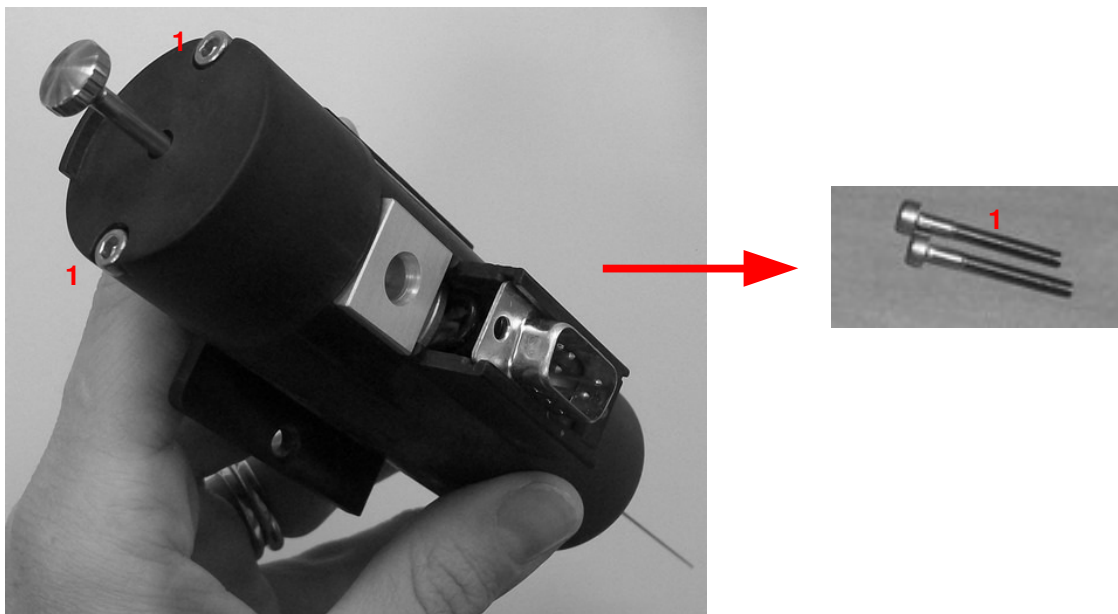
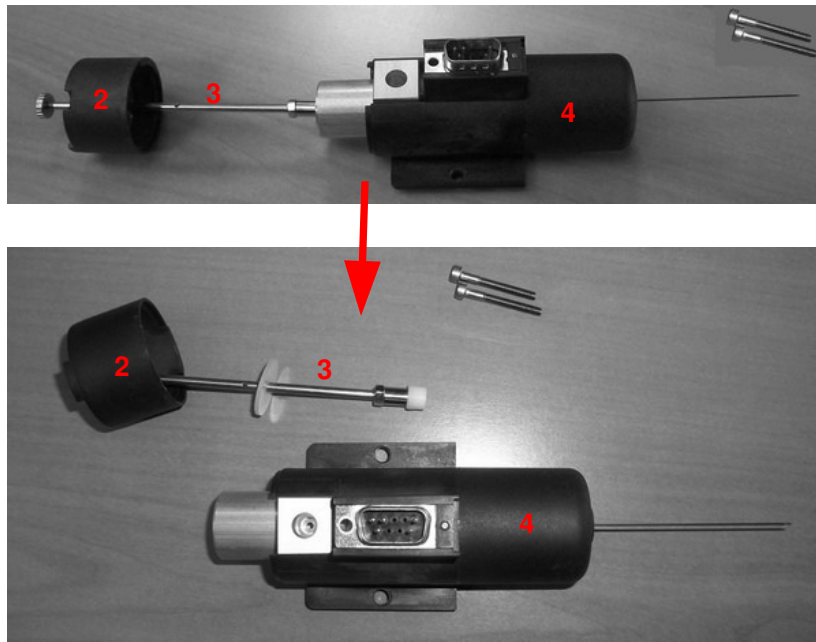

Figure 109: Main screw
Figure 110: Removing the upper cover and the syringe plunger
1. Remove the two main screws (number 1 in **Figure 109**) that secure the upper cover using the supplied allen key (see paragraph 2.3 “Tool kit”).
2. Gently lift up the upper cover (number 2 in **Figure 110**) and the syringe plunger (number 3 in Figure 109)) to detach them from the heating body (number 4 in **Figure 110**).
1. Remove the two main screws (number 1 in **Figure 109**) that secure the upper cover using the supplied allen key (see paragraph 2.3 "Tool kit").
2. Gently lift up the upper cover (number 2 in **Figure 110**) and the syringe plunger (number 3 in **Figure 110**) to detach them from the heating body (number 4 in **Figure 110**).
14. Remove the two main screws (number 1 in **Figure 109**) that secure the upper cover using the supplied allen key (see paragraph 2.3 “Tool kit”).
15. Gently lift up the upper cover (number 2 in **Figure 110**) and the syringe plunger (number 3 in **Figure 110**) to detach them from the heating body (number 4 in **Figure 110**).